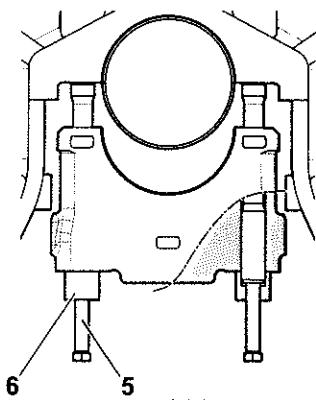

Fig.3 Holding the main bearing cap
- 12.Immediately install the cap support tool 5 and support nut 6 to the main bearing cap bolt. (Refer to Fig. 3.)